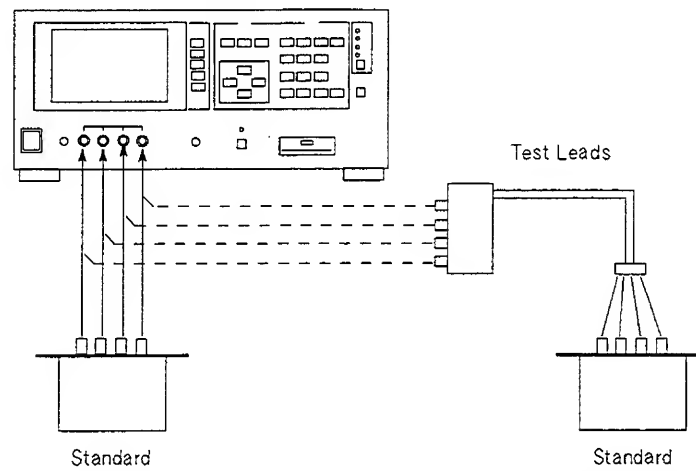

Figure 2-18. Impedance Measurement Adjustment Setup
5. Perform the impedance measurement adjustment (EEPROM data updating) according to the program instruction. Figure 2-18 shows the adjustment setup.